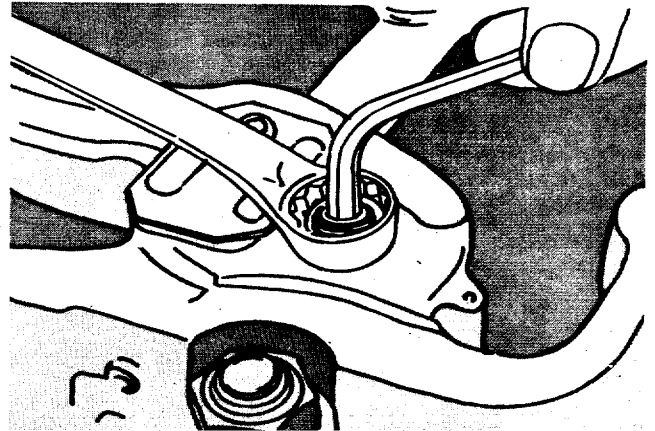
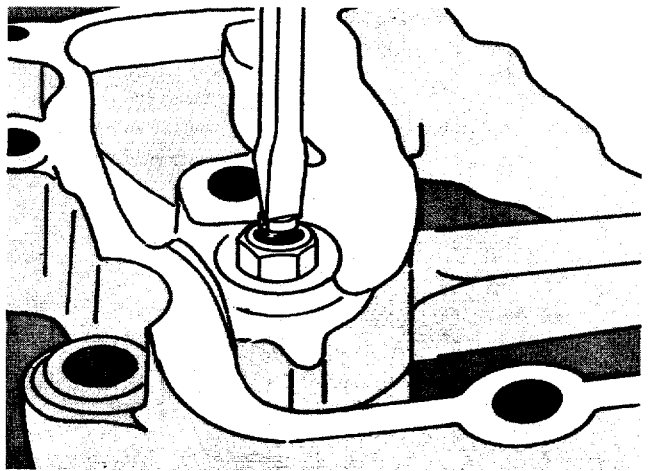

Fig. 20-8. Adjust The Slave Piston In The Models 25C And 44.
Fig. 20-9. Adjust The Slave Piston In The Models 44A And 44B.
**Note:** Use an allen wrench to adjust the slave piston in the Jacobs Brake Model 25C and Model 44, Fig. 20-8. Use a screwdriver to adjust the slave piston in the Jacobs Brake Model 44A and Model 44B, Fig. 20-9. Use the same adjustment procedure and clearance for the Models 25C, 44, 44A and 44B.